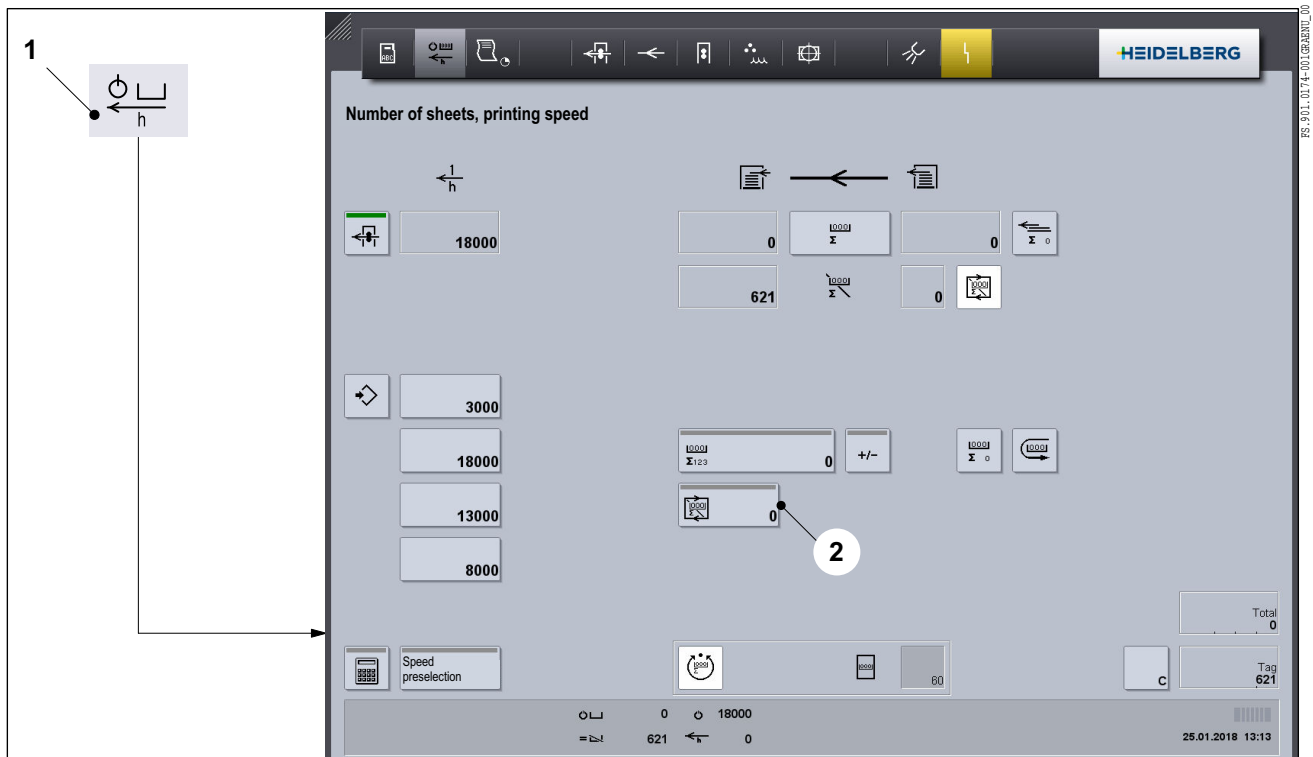

Fig. 5 Number of sheets/makeready interval window
1. Press the *Enter makeready interval* button (Fig. 5/2). The **Number of sheets/Makeready interval** window appears.